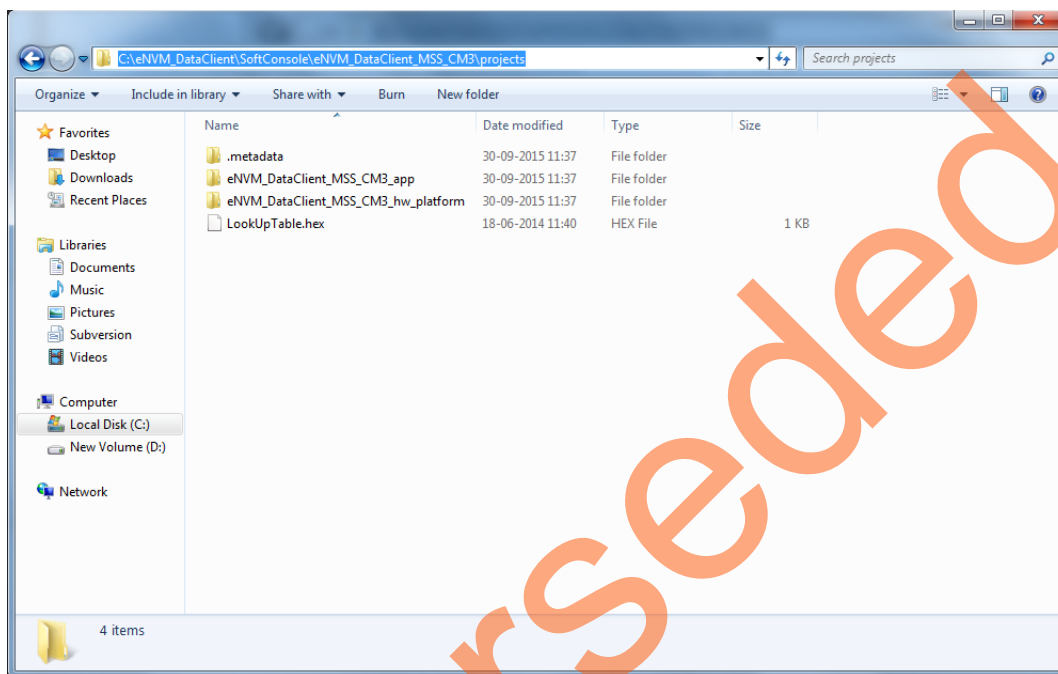
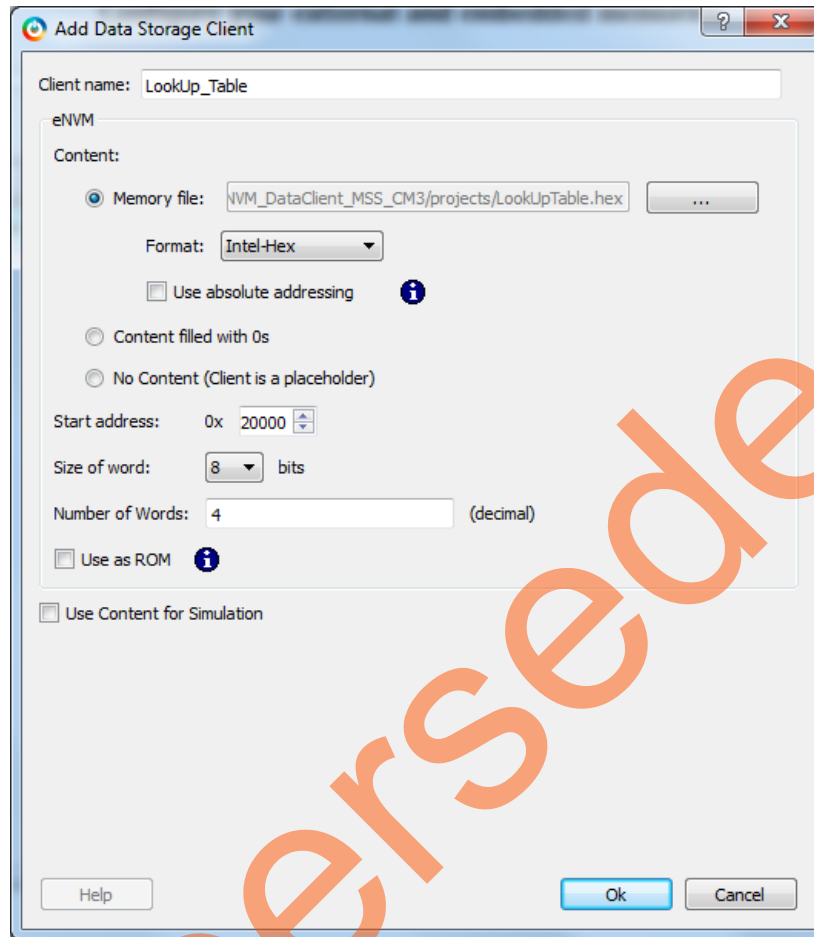

Figure 18 • LookUpTable.hex File
Figure 19 • Add Data Storage Client Window
7. Add **LookUpTable.hex** file to eNVM Data Storage Client as shown in Figure 18 and Figure 19 on page 17.
8. Select the Start address as 20000 in the **Add Data Storage Client** window, see Figure 19. This is the address in eNVM, where the `LookUpTable.hex` file is stored. Click **Ok**.